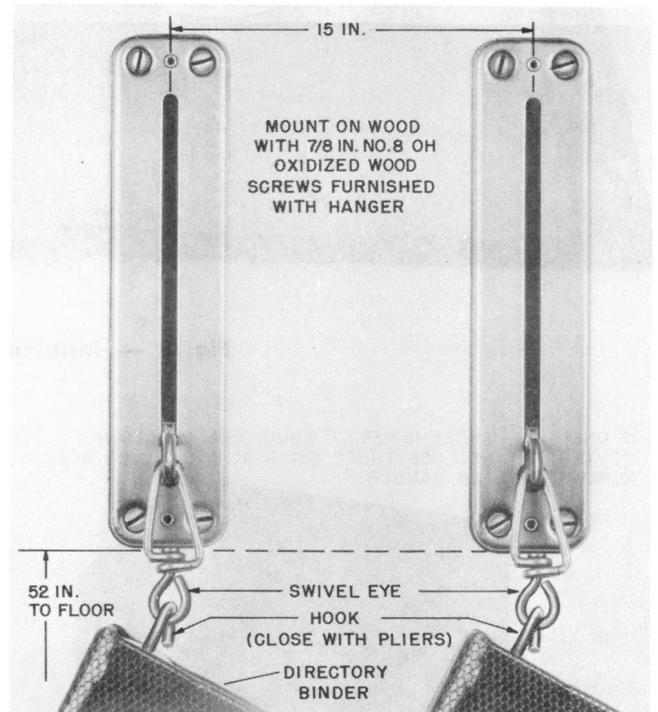

Fig. 2 — KS-7302 Hanger Installation
- Outside panels of wood booths (Fig. 2).
- Wall surfaces with the use of backboards. Install in same manner shown in Fig. 2.